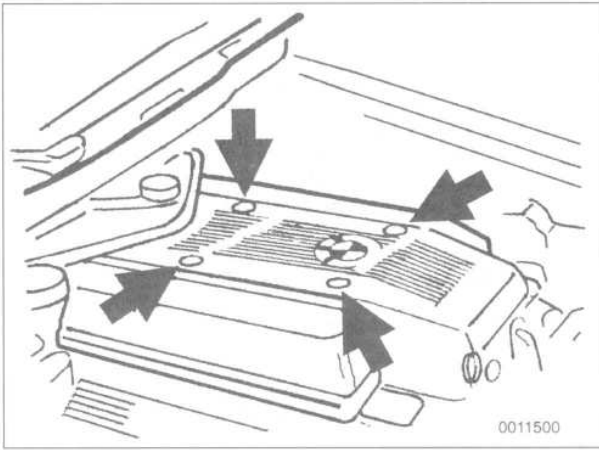

Fig. 12. Pry out caps to access nuts (arrows) on M60 engine covers.
- Remove plastic cover from center top of engine. Remove both plastic covers from top of left and right cylinder head covers. See Fig. 12.